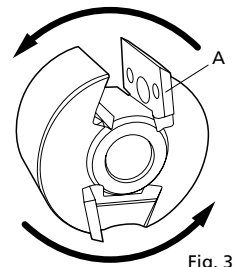

Fig. 3
3. Retire el cortador (Fig.3-A) de los 2 pernos de acero y reemplace con el juego de cortadores deseado.
3. Remove the cutter (Fig.3-A) from the 2 positioning steel pins and replace it with desired cutter.
⚠ WARNING: Make sure the cutting edge of the cutter faces the direction of rotation of the shaper spindle as shown in figure 3.